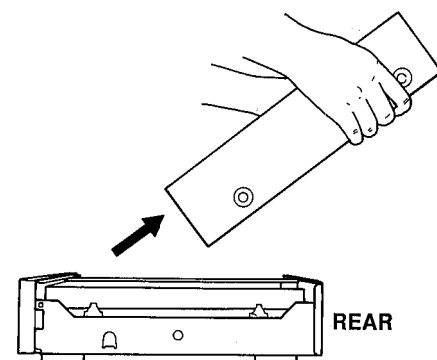

Fig. 4
- Pull off the Top Cover diagonally as shown in Fig. 4.